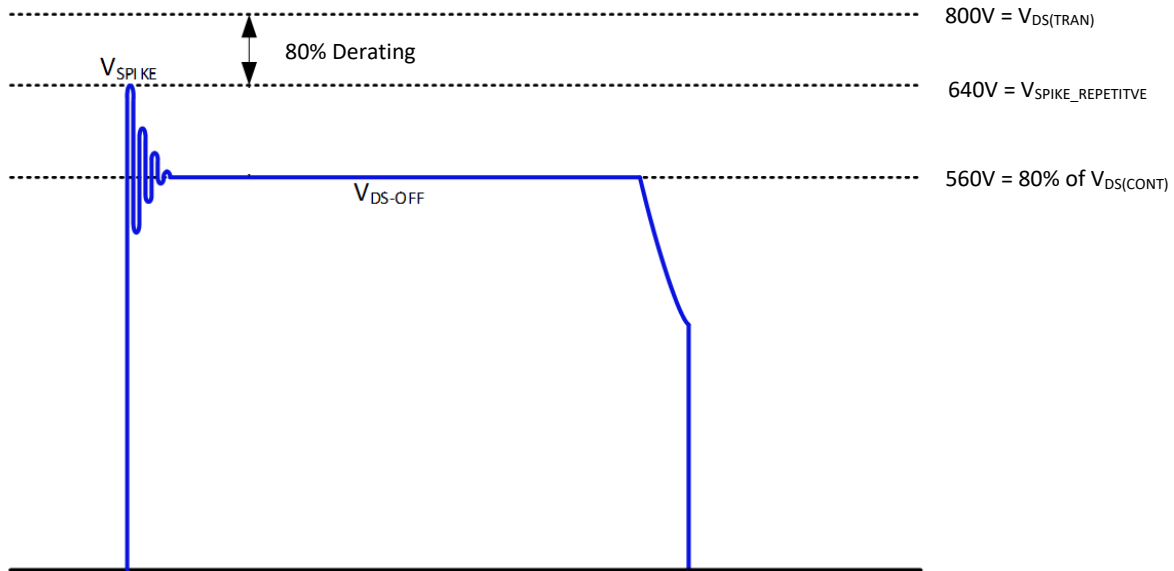

Figure 26. QR flyback drain-to-source voltage stress diagram
GaN Power ICs have been designed and tested to provide significant design margin to handle transient and continuous voltage conditions that are commonly seen in single-ended topologies, such as quasi-resonant (QR) flyback applications. The different voltage levels and recommended margins in a typical QR flyback can be analyzed using Figure 26. When the device is switched off, the energy stored in the transformer leakage inductance will cause V_{DS} to overshoot to the level of V_{SPIKE} . The clamp circuit should be designed to control the magnitude of V_{SPIKE} . After dissipation of the leakage energy, the device V_{DS} will settle to the level of the bus voltage plus the reflected output voltage which is defined in Figure 26 as V_{DS-OFF} .